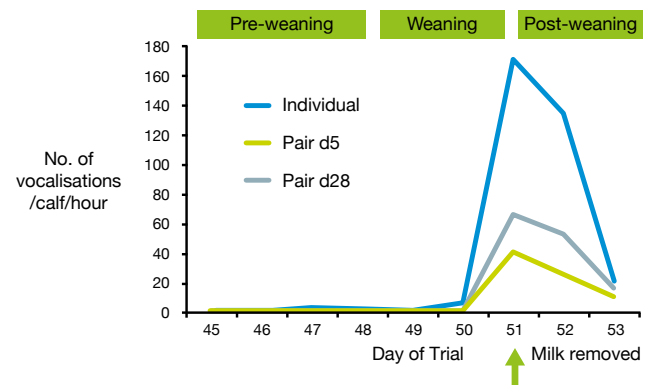

Figure 24. Vocalisations
- Individual calves vocalised four times more than calves paired on d5 and two times more than calves paired on d28 (Figure 24)